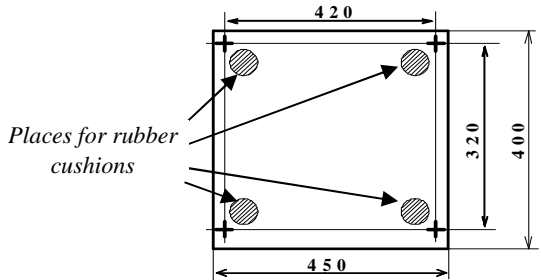

Figure 1
4.1.3 Securely attach the RIP at a convenient place. The overall dimensions and the places to stick the cushions are shown in Figure 1.